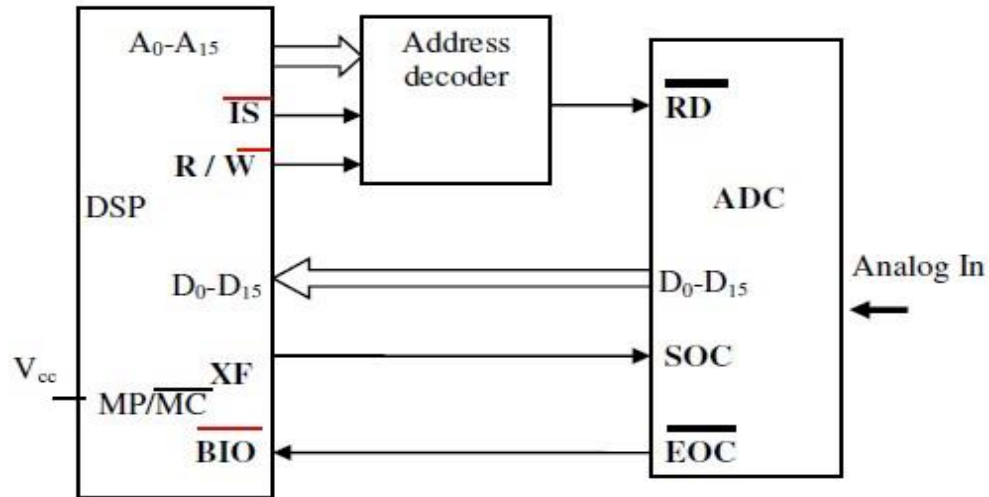

Fig. 7.7: ADC in Programmed I/O mode
- An example of interfacing ADC to DSP in programmed I/O mode is shown in fig. 7.7.